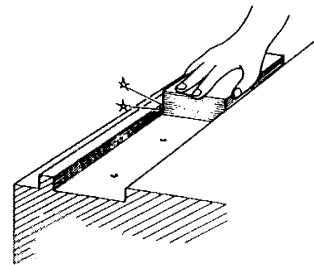

Fig. 14 Check of the mounting surface
- 1) Burr, dents, dirt, etc. must be removed in advance from the mounting surface of the machine where an guide is to be installed. (Fig. 14)